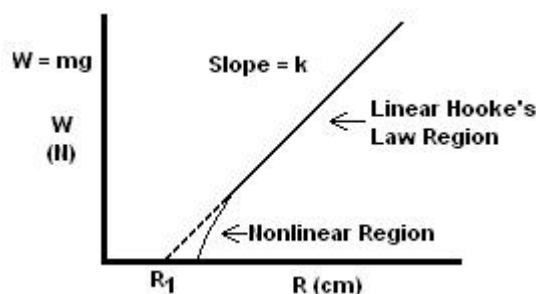

Figure 2: Force vs. elongation graph for real spring
As shown in Fig. 2, this force exerted by the spring on the mass may be determined from separate measurements of the elongation of the spring made with successively greater masses hung from it. Hooke's Law, Eq. (1) is a linear relation between the restoring force and the displacement. This formula holds for a spring made from wire whose diameter is small enough so that the spring contracts to its unstretched length without compressing adjacent turns against each other.
In today's experiment, you will apply weights ($W=mg$) to the spring and measure its elongation, and make a graph of the applied force versus elongation R (see Fig. 2). This graph will be used next week to determine the centripetal force when the mass attached to the spring is rotated. An important aspect of the analysis of this data will be in determining what range of elongation is correctly described by Hooke's law and what range must be ignored because our model of the physical behavior of the system breaks down. Some tubes will not display the nonlinear region in figure 2 once the first data point (200.00 grams) is entered in your graphical analysis.
For your lab report, draw a single fine line that fits best the linear portion of the data and extend it to the extreme borders of the graph paper. **This line should intercept the horizontal R axis at $R=R_1$.** Your line is a linear extension of the Hooke's Law region of your graph. Your graph may resemble the graph in Fig. 2. (The dashed line is a linear extension of the larger displacement portion of the Hooke's Law region of the graph.)